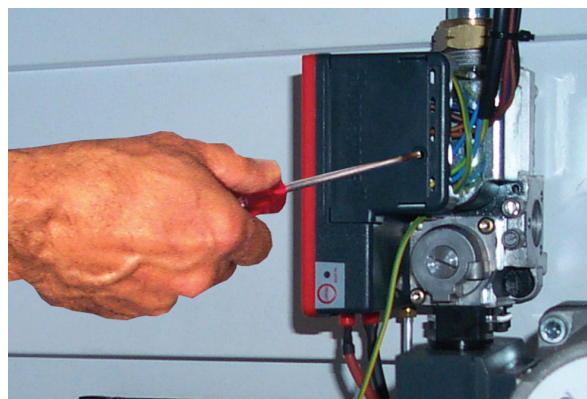

fig. 7
2. Remove the gas valve electronic controller (fig. 7);